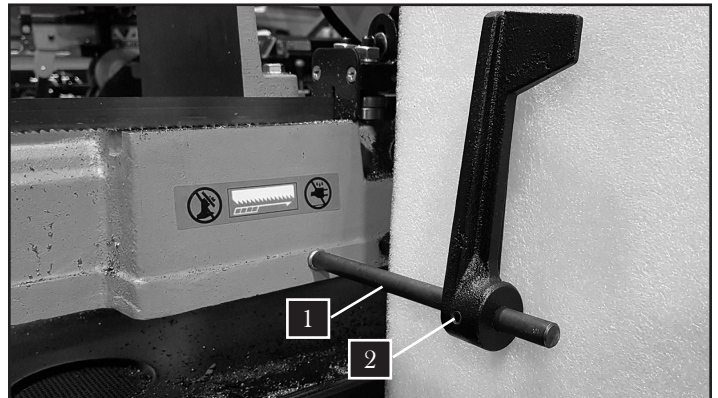

Fig. 1
1. Thread the work stop support rod (Fig. 1 - 1) into the center hole on the saw base.
2. Slide the work stop onto the rod with the flat side facing the saw body. Fully tighten the set screw (Fig. 1 - 2).